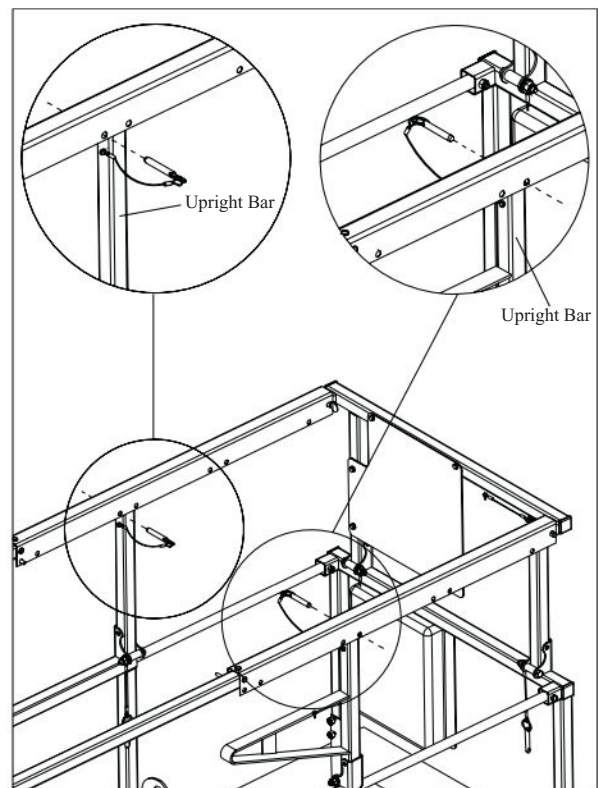

Figure 3-12. Variable Position Manual Extension Platform
2. Upon extension or retraction, reinsert locking pins. Insert pin on one side of aerial platform in front of upright bar and the pin on the other side of aerial platform behind the upright bar to prevent accidental movement, in either direction, of manual extension platform during travel or transport. Refer to Figure 3-12 for a configuration example.